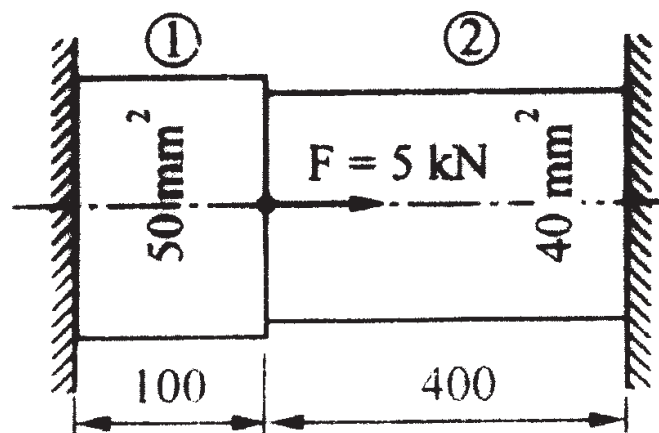

Figure 2
- b) A stepped bar is as shown in the figure 2 determine the displacement in each of the sections. Given $E_1 = 70$ GPa and $E_2 = 200$ GPa. [12]